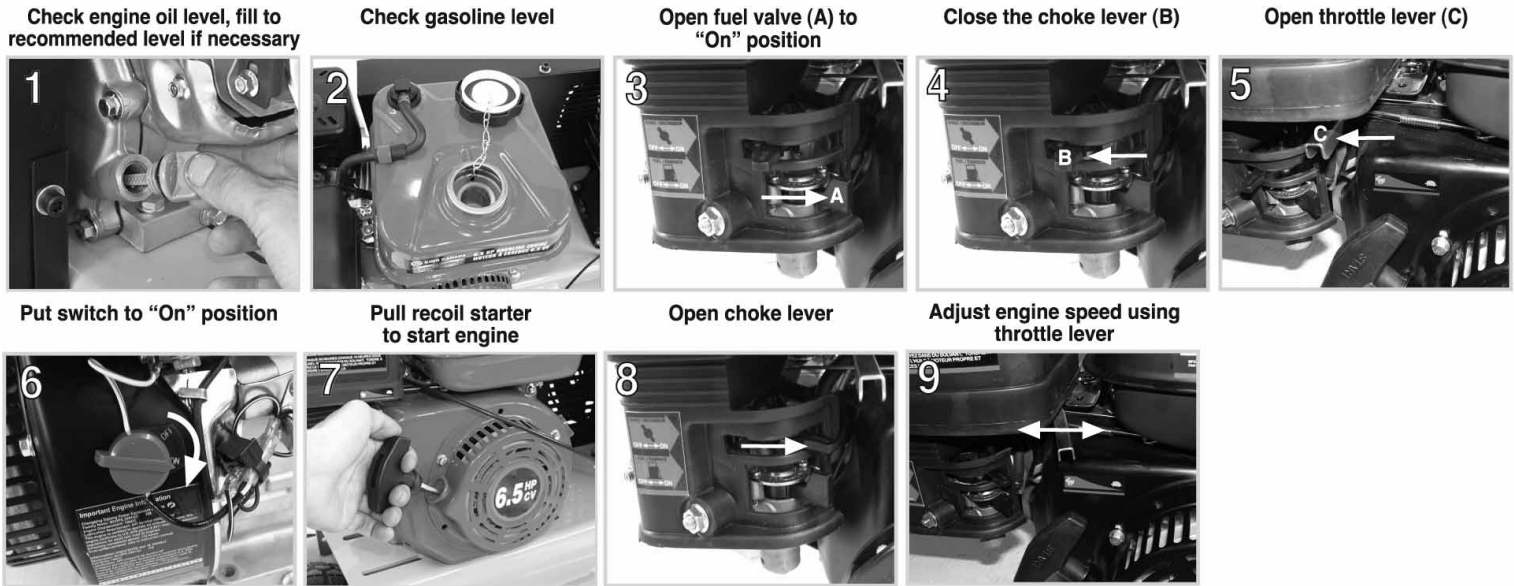

Figure 5
To safely start your engine, follow these steps: (Fig.5)
- 1) Move the throttle lever (refer to step 9, Fig.5) towards the right.
- 2) Turn the engine switch (refer to step 6, Fig.5) to the "OFF" position (upwards).
- 3) Close the fuel shut-off valve (refer to step 3, Fig.5) by moving it towards the left.